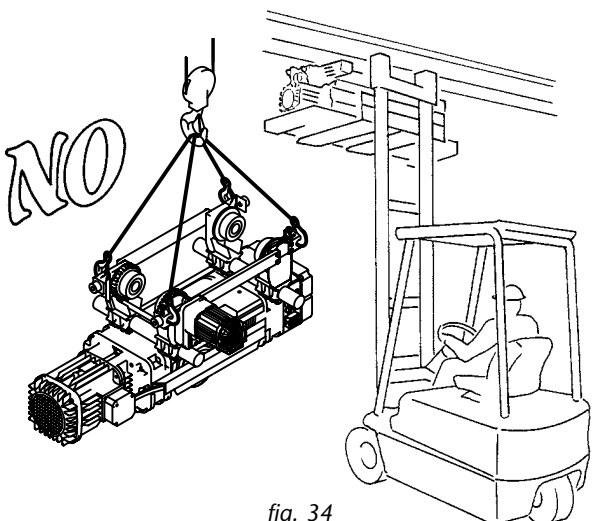

fig. 34
*The installation on the girder at a height of the hoist/trolley unit positioned on a pallet must be carried out **SOLELY** by **ELEVATING** it with the help of a forklift truck, or a raisable platform or of other means suitable for the purpose and **NEVER BY LIFTING**, because the slings would make the assembling on the girder difficult or dangerous (fig. 34).*